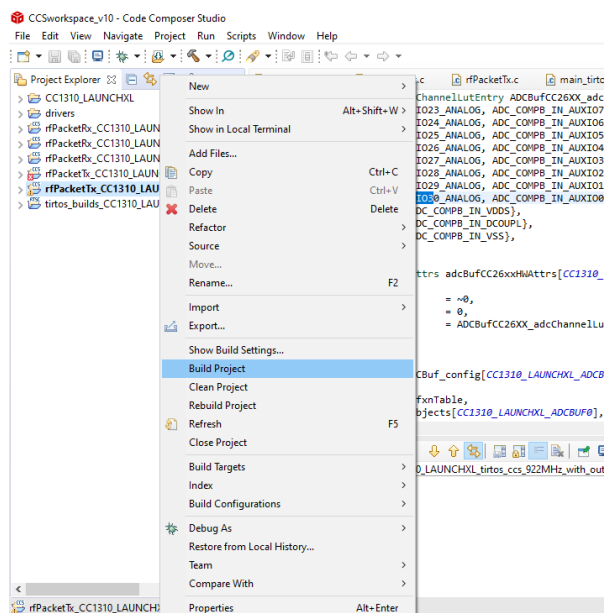

Figure 5: Building Project
3. Build or rebuild project to compile as shown in Figure 5.